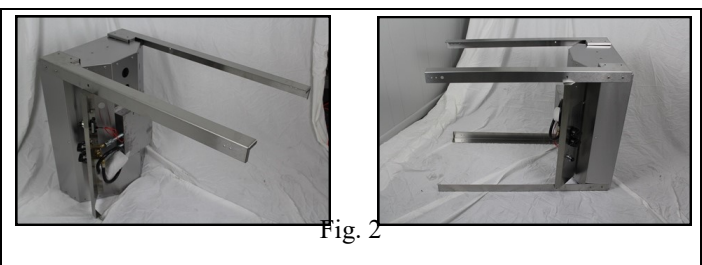
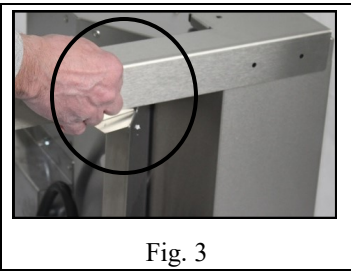
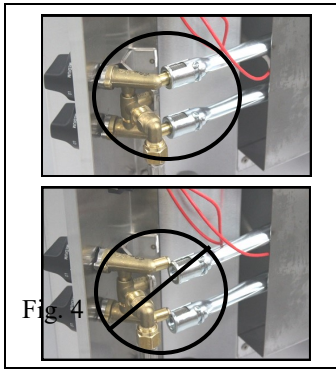

Fig. 2
Fig. 3
Fig. 4
- Step 1: Leg Assembly (Fig 2)**
1. Tip the grill head bottom on end as shown in (Fig. 2). (TIP: work on protected area such as carpet, tarp or one of the boxes to protect grill finish.)
2. Attach the (2) long legs to the right end of the grill's bottom pit. Use (2) 10-24 x 1/2" Phillips Head Screws for each leg. Insert screws from outside of grill pit and fasten with 10-24 kep nuts.
3. Flip the grill over and attach the (2) short legs to the left side of the grill pit bottom. Use (2) 10-24 x 1/2" Phillips Head Screws for each leg. Insert screws from outside of grill pit and fasten with 10-24 kep nuts. **Note: When attaching front legs make sure the control panel tab is tucked behind the front legs as shown in (Fig. 3) The valve stems must be seated properly in the venturi tubes as shown in (Fig. 4) before tightening.**